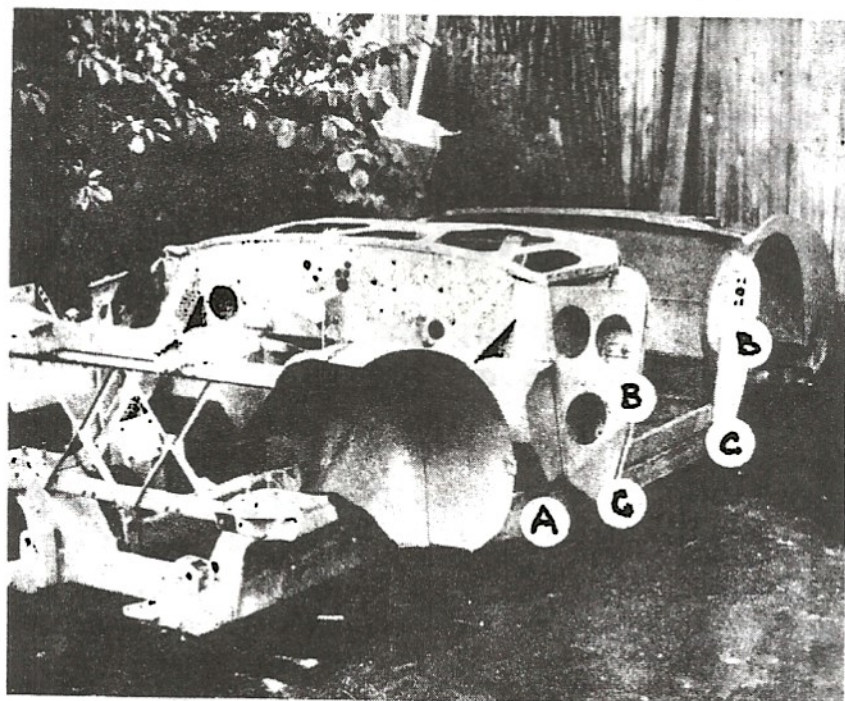

FIGURE 1
The areas most prone to deterioration on a Healey are the inner sills (A), door pillars (B) and outriggers (C) (Figure 1). Although the main frame members contribute to overall rigidity of the car, the parts indicated above are most important in body panel alignment and appearance of the shell.